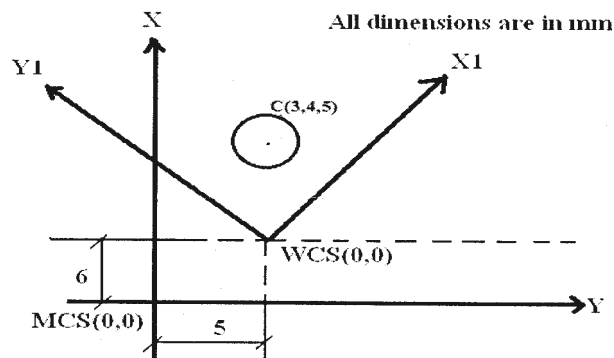

Fig.01: Q. No. 2(b)
- b) The co-ordinates of the center of circle are C (3, 4, 5) in WCS. Find the co-ordinates of Centre of circle with respect MCS. The orientation of MCS and WCS is shown in Fig.01. [6]